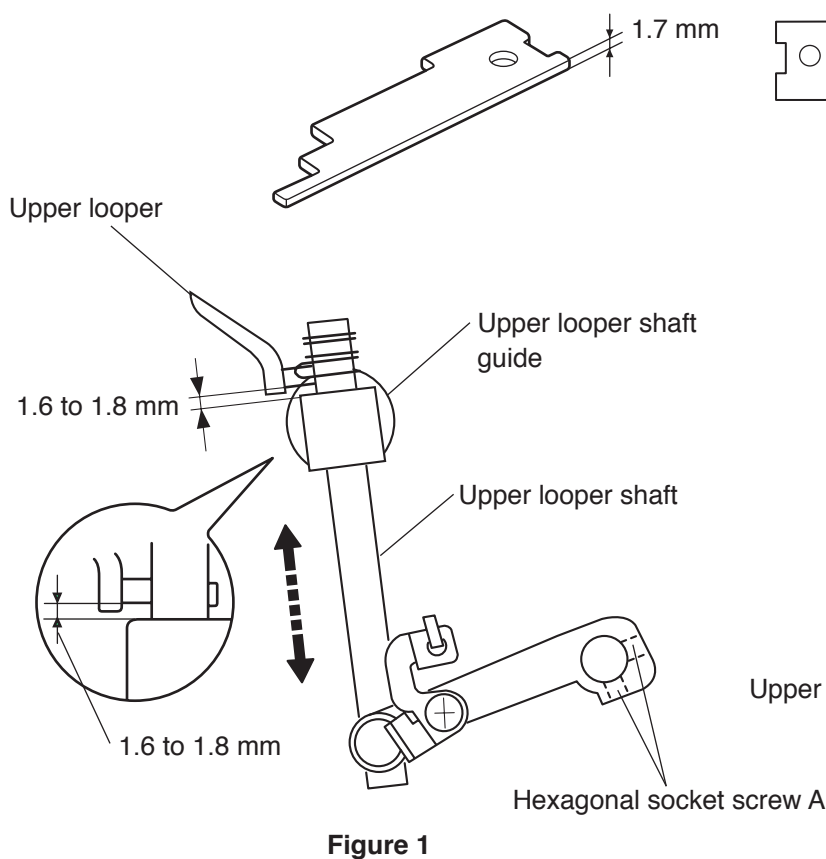

Figure 1
2. Loosen the hexagonal socket screws A (2 pcs.), and adjust the distance between upper looper shaft guide and bottom of upper looper. The distance should be 1.6 to 1.8 mm when the upper looper is at the lowest position as shown in Figure 1.